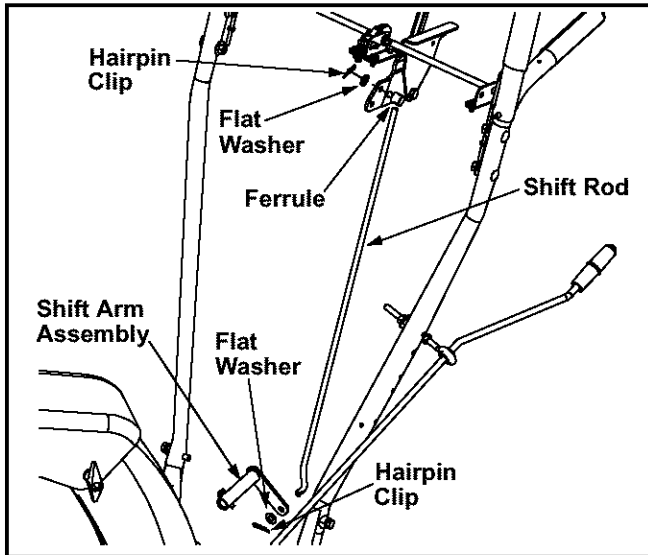

Figure 9
- Place the shift lever (on the handle panel) in the sixth (6) speed position (all the way forward).
- Place the bent end of the shift rod into the hole in the shift arm assembly. Secure with flat washer and hairpin clip. See Figure 9.